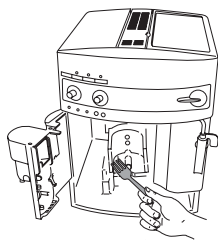
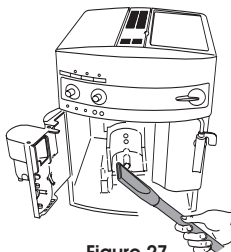

Figure 26
Figure 27
- Carefully clean the inside of the machine by scraping it with a plastic or wooden fork (Figure 26) and then pick up all the residues using a vacuum cleaner (Figure 27)